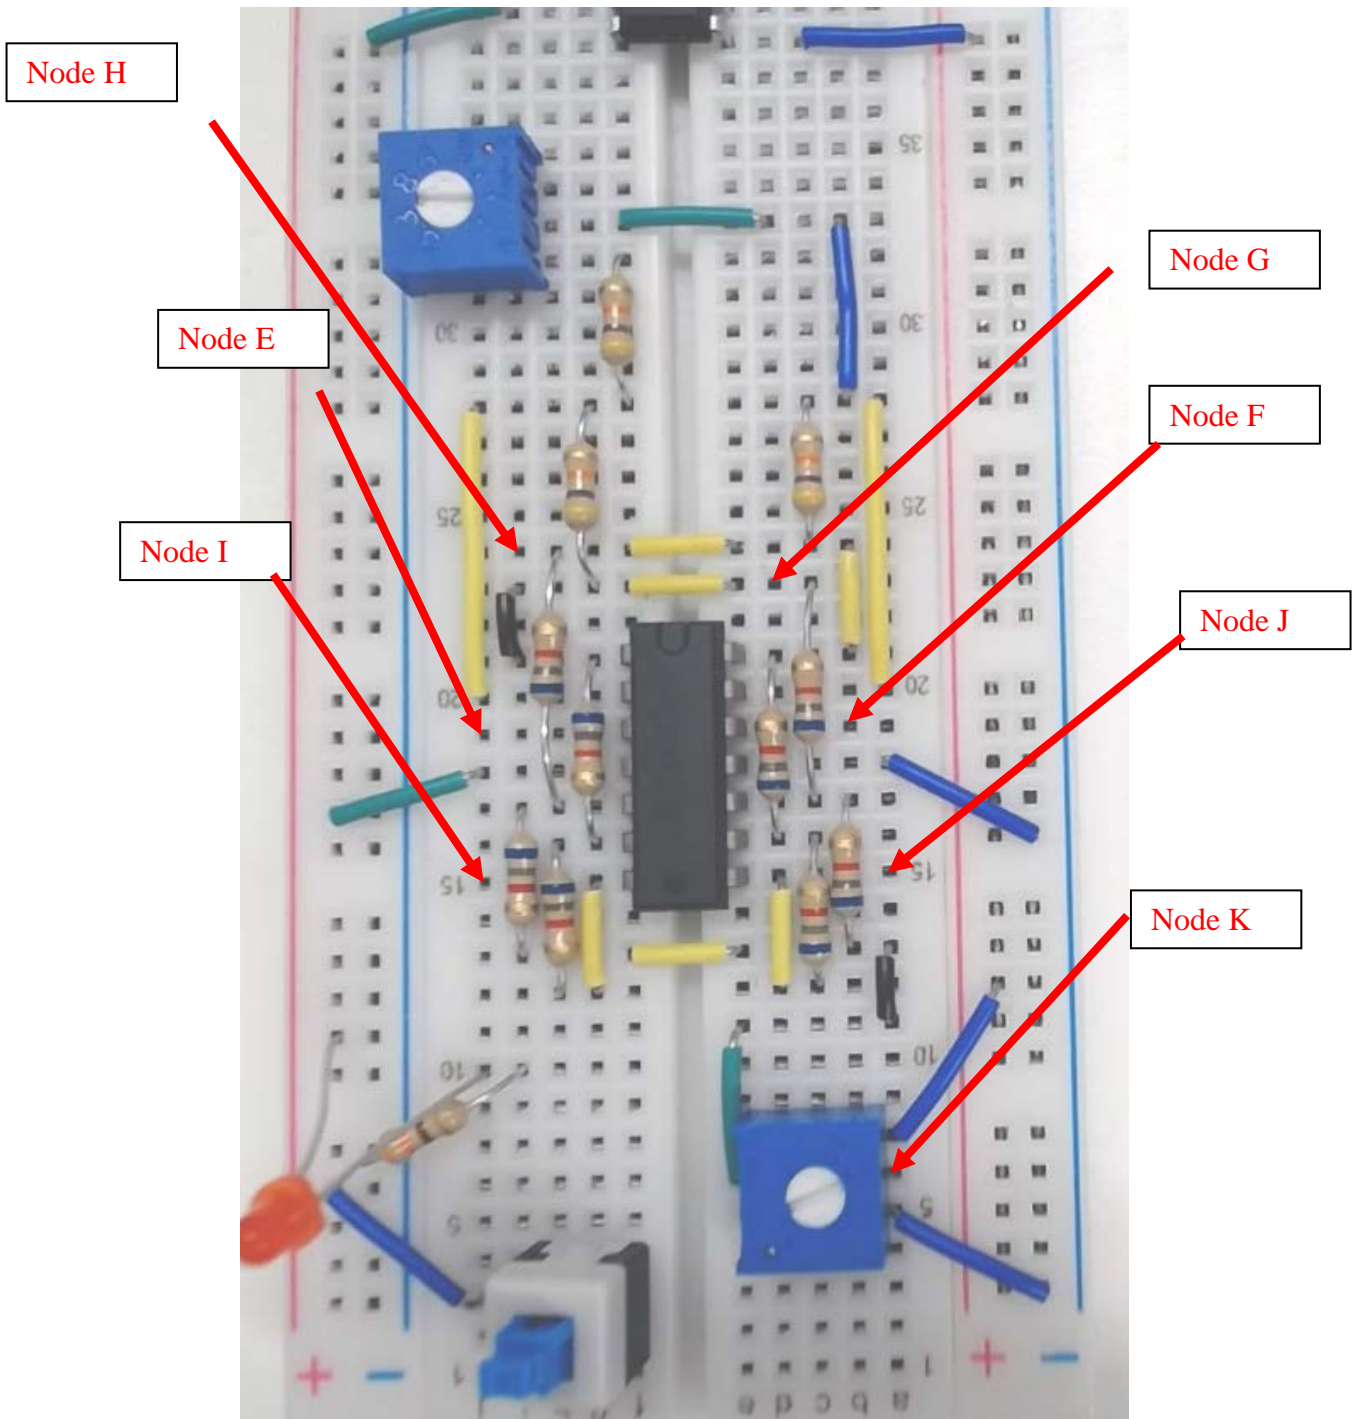

Fig. 34
5.2.9. The LM324 (4 x op amps IC) is shown in Fig. 32. Connect the amplifier circuit shown in Fig. 33, and put all the components on the breadboard as shown in Fig. 34 and Fig. 35. You could refer to the video (video12-amplifier\_circuit.mp4) for demonstration.